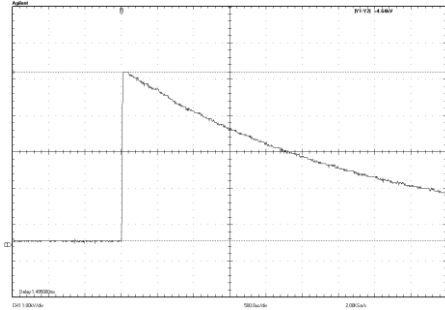

Figure 5. $V_{peak} = 4.65kV$ with 500uH inductor
- a. V_{peak} about 4.64KV, see figure 5 (When inductor selected is 500uH).